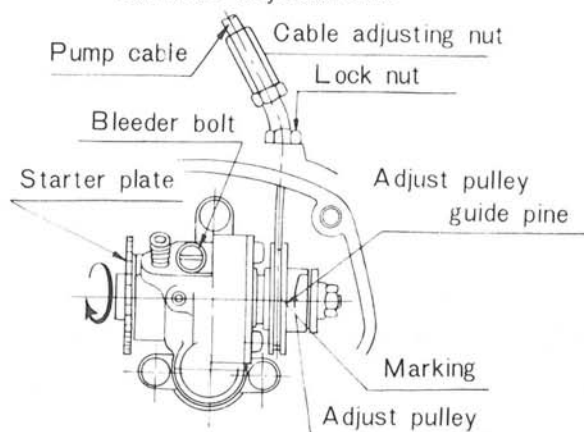
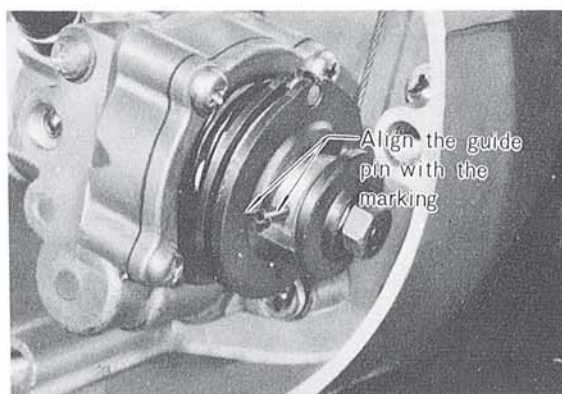

Fig. II-3-7
Fig. II-3-8
- Check the play of the throttle cable (A) by pulling the outer part of the throttle grip. If the play is excessive or insufficient, adjust the play with the adjustment screw.
- a. Adjust the pump cable so that the marking (arrow) on the Autolube pump adjustment pulley is aligned with the guide pin (see Fig. II-3-8). Begin by fully closing the accelerator grip, then slowly turning it back again so that the slack in the throttle cable is completely taken up. Next, adjust the pump cable so that the marking on the pump adjustment pulley will be aligned with the guide pin, as shown in Fig. II-3-7. The point of adjustment is at the end of the cable, just before it enters the case. Loosen the lock nut and screw the adjuster in or out, whichever direction is necessary to obtain the correct adjustment.